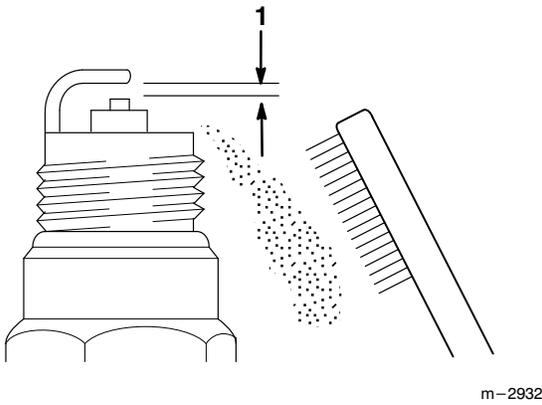

Figure 23
5. Clean the electrodes with a stiff brush (Fig. 23).
6. Adjust the electrode air gap to .024-.028 in. (0.6-0.7mm) (Fig. 23).